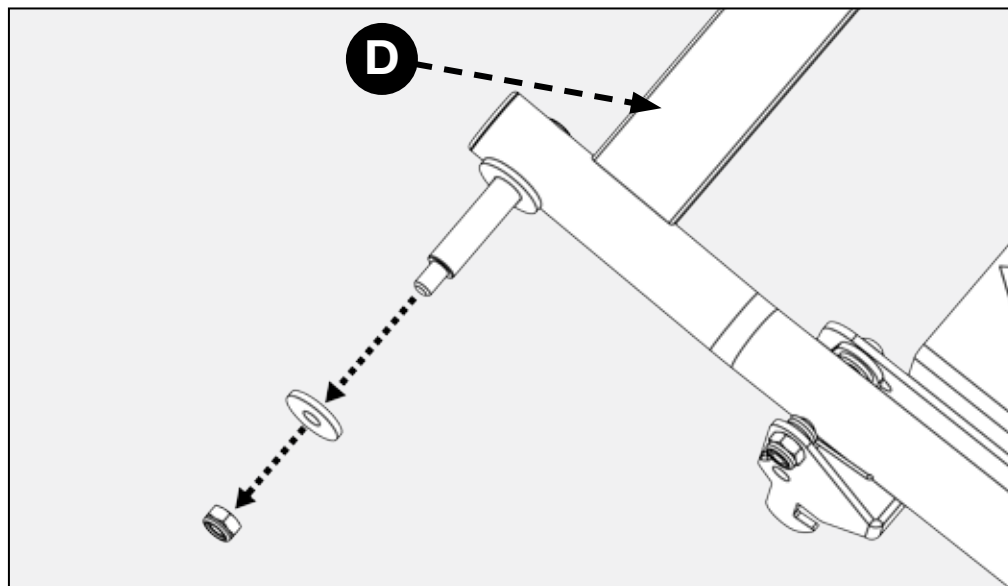

FIGURE 6
Remove the lock nut and washer from each axle on the pedal assembly (D) as shown in Figure 6.